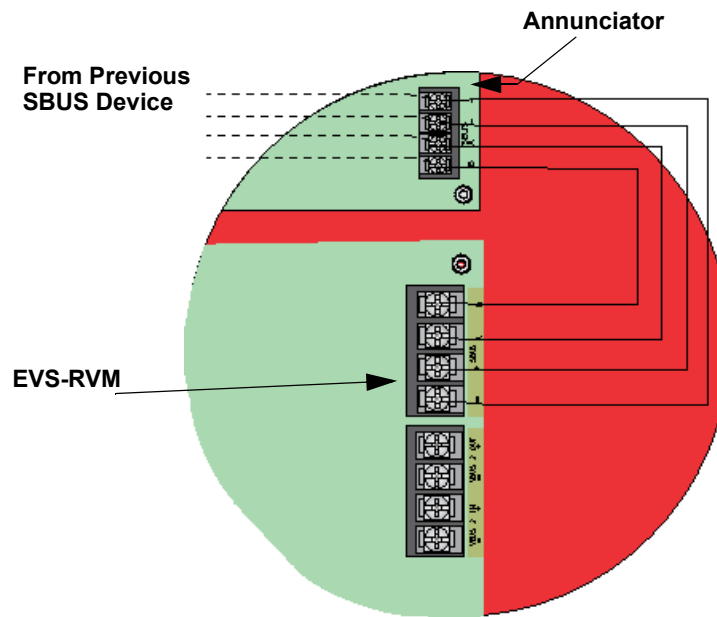

Figure 4-40 SBUS Wiring for EVS-RVM
3. Connect the SBUS to the annunciator and EVS-RVM. See Figure 4-40.